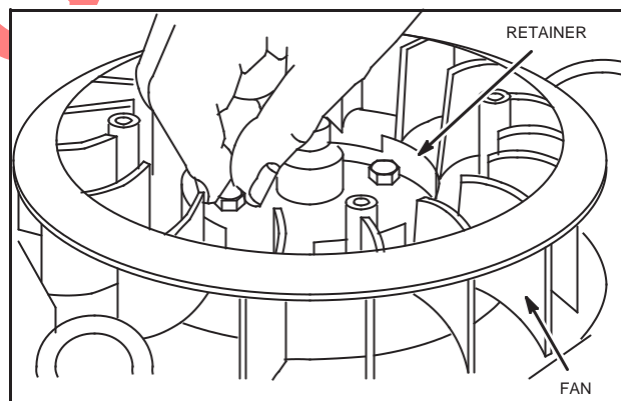

Fig. 7 – Installing Flywheel And Fan
3. Assemble fan and retainer to flywheel, Fig. 7.